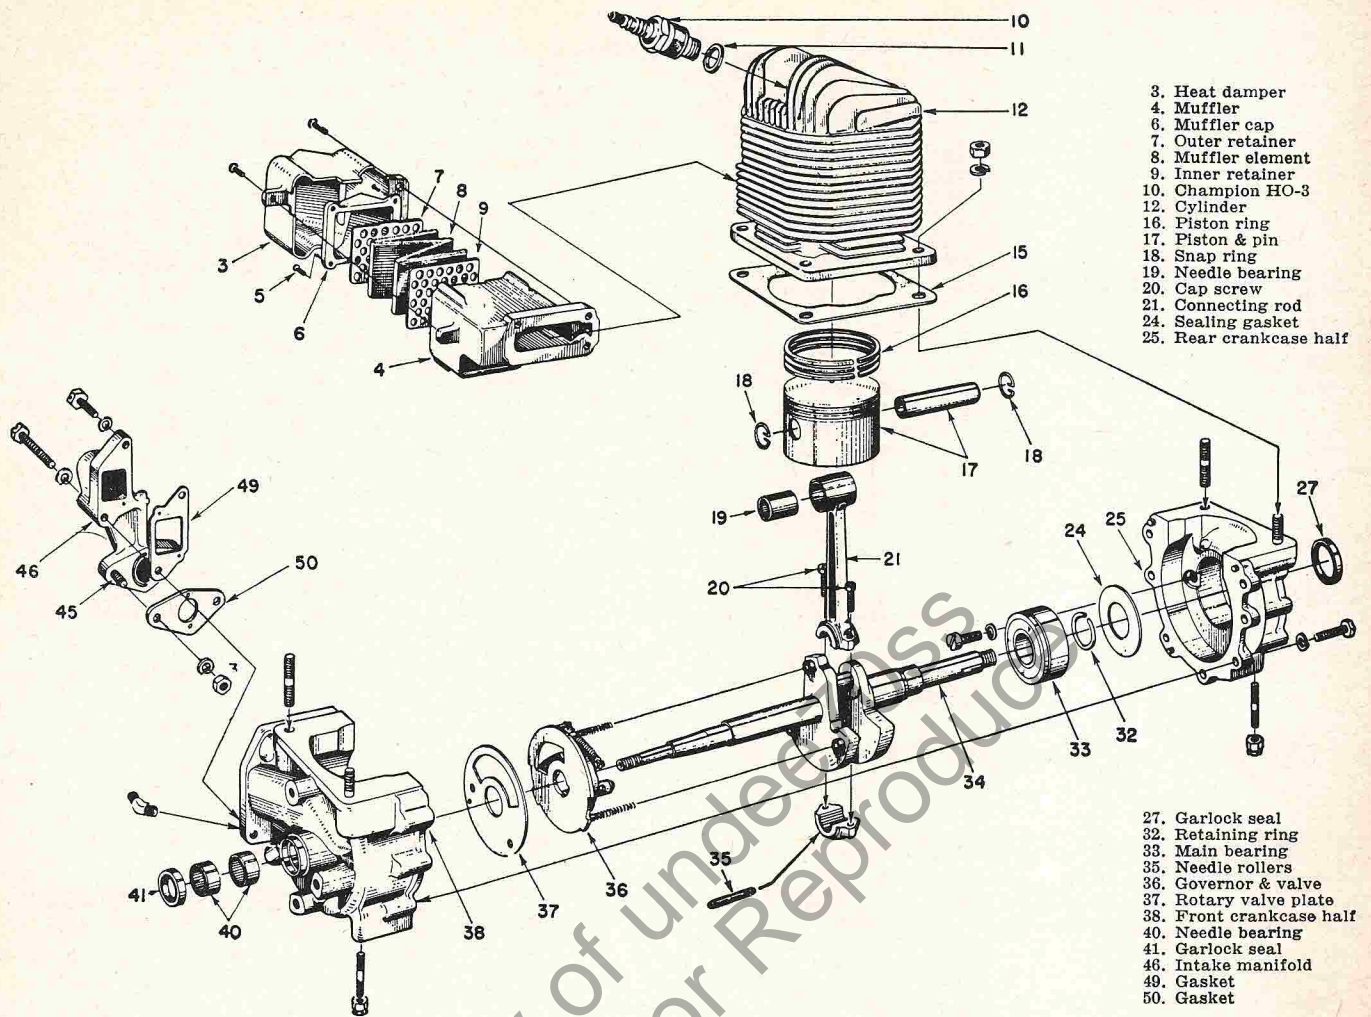

**Fig. HL12 —** On all models the connecting rod retaining screws are accessible from above.
**CONNECTING ROD.** Rod and piston assembly unit can be removed from all engines after removing the cylinder assembly (Fig. HL12). Be careful to avoid loss of individual needle rollers in crankcase. If piston is removed from the rod at this time be sure to support (buck up) piston when bumping piston pin out of piston.